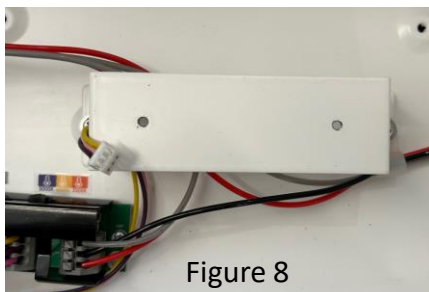

Figure 8
- A. Remove the lens module (B) from the fixture housing (A). Locate the microwave sensor mounting plate and wiring harness in the fixture base - located near the driver (fig. 8).